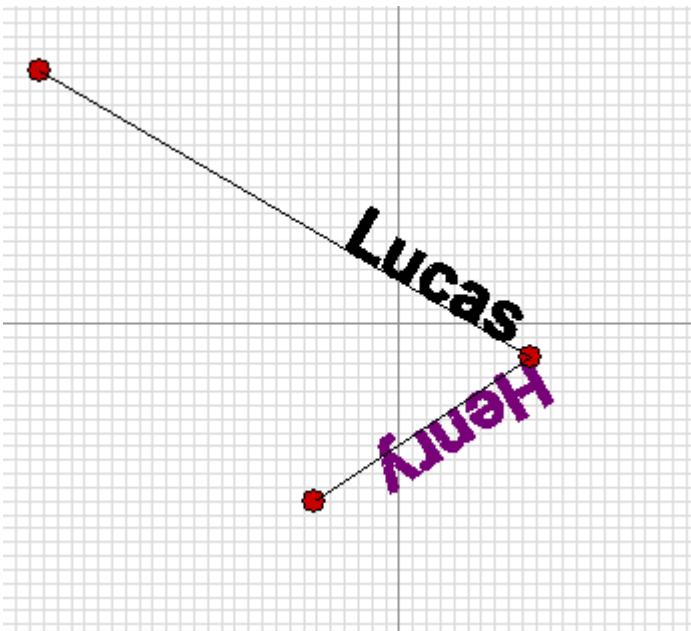

Fig. 2b Polygon Path Layout
2. Polygon (Fig. 2b). This type initially has two (red) active control points, defining a single edge. New points may be added by clicking anywhere on the layout surface, and existing points can be deleted by Shift+clicking them. In Fig. 2b, one additional point was added (for a total of 3 control points and 2 edges), and the text was bend around the resulting corner.